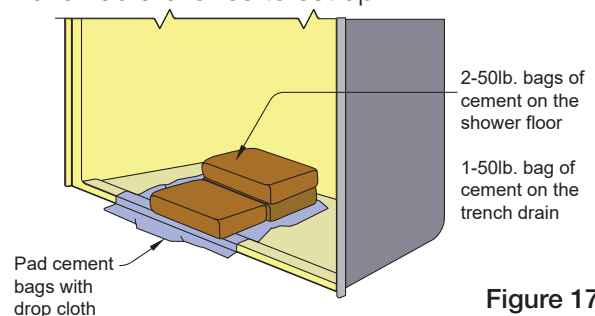

Figure 17
16. Place protective drop cloth on shower floor before placing two 50-pound bags of concrete on the shower floor and one 50-pound bag on the trench drain. See Figure 17.